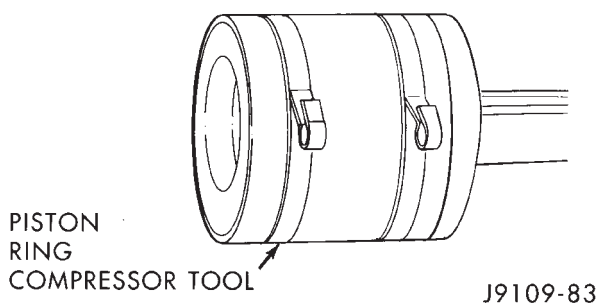

Fig. 77 Piston Ring Compressor Tool
(1) Lubricate the cylinder bore with clean engine oil.
(2) Generously lubricate the rings and piston skirts with clean engine oil.
(3) Compress the rings using a piston ring compressor tool (Fig. 77). If using a strap-type ring compressor, make sure the inside end of the strap does not hook on a ring gap and break the ring.